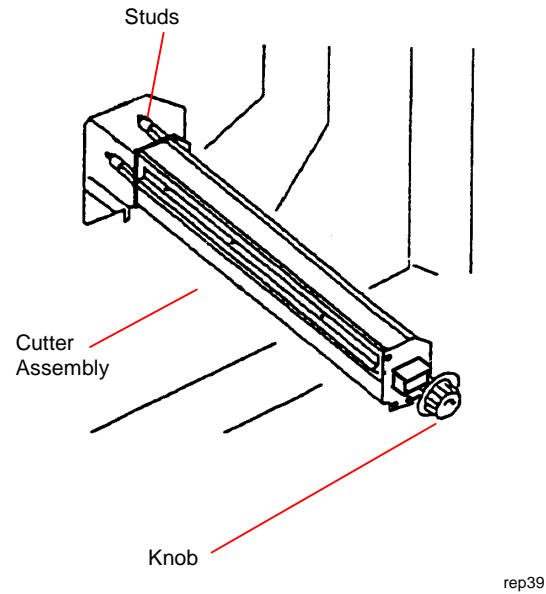

Figure 2. Removing the Cutter Assembly
4. (Figure 2): Hold the Cutter Assembly Knob and pull out the Cutter Assembly, keeping it level. Use both hands to complete the removal.